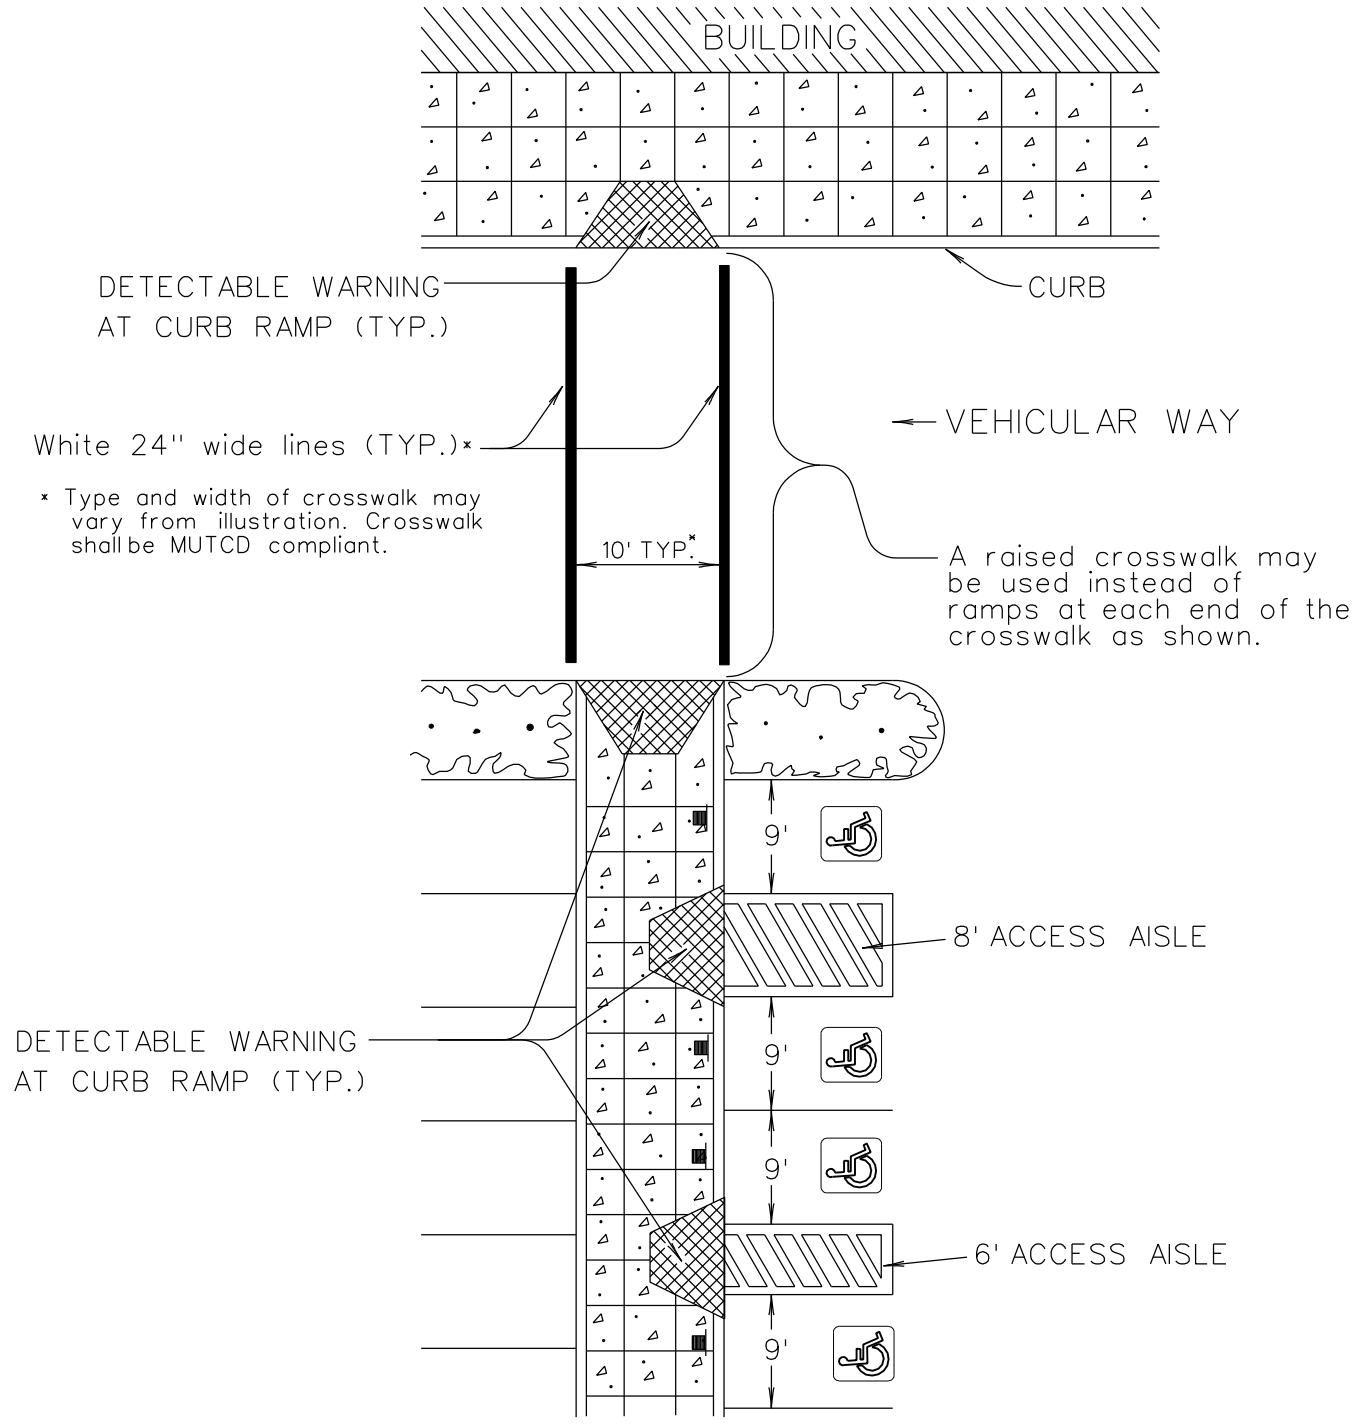

Figure 6
- Ramp location and design (**Figures 6 and 11**)
- Detectable warnings (**Figures 6 and 7**)